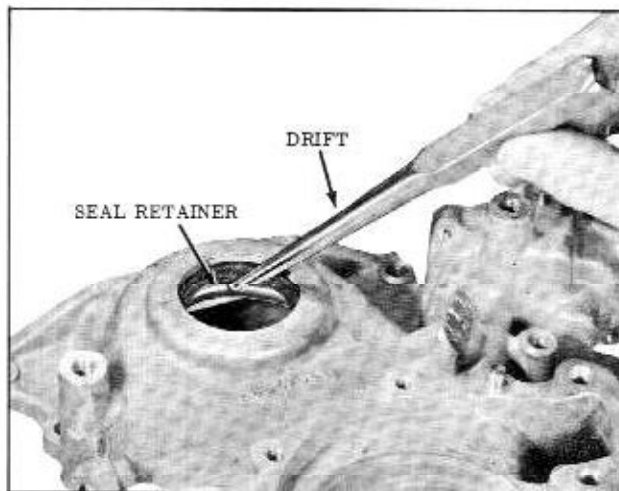

Fig. 8-38 Removing Front Oil Seal
3. Remove seal retainer with drift. (Fig. 8-38)